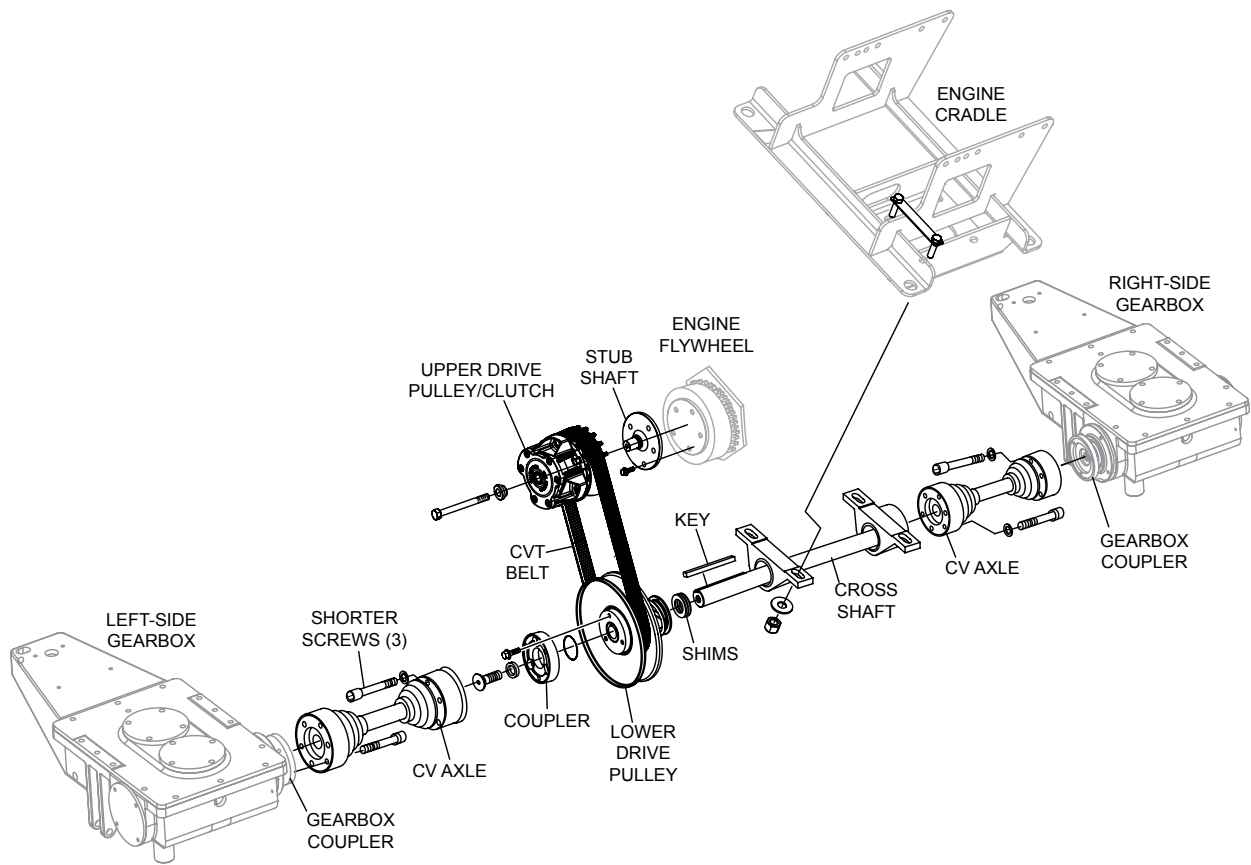

Figure 22. New Drive Assembly
15. Connect right-side CV axle assembly to right-side gearbox coupler (if applicable) and cross shaft coupler. Connect left-side CV axle assembly to lower pulley coupler and left-side gearbox coupler Reference Figure 22.
Figure 22 illustrates the new, fully-installed drive assembly.